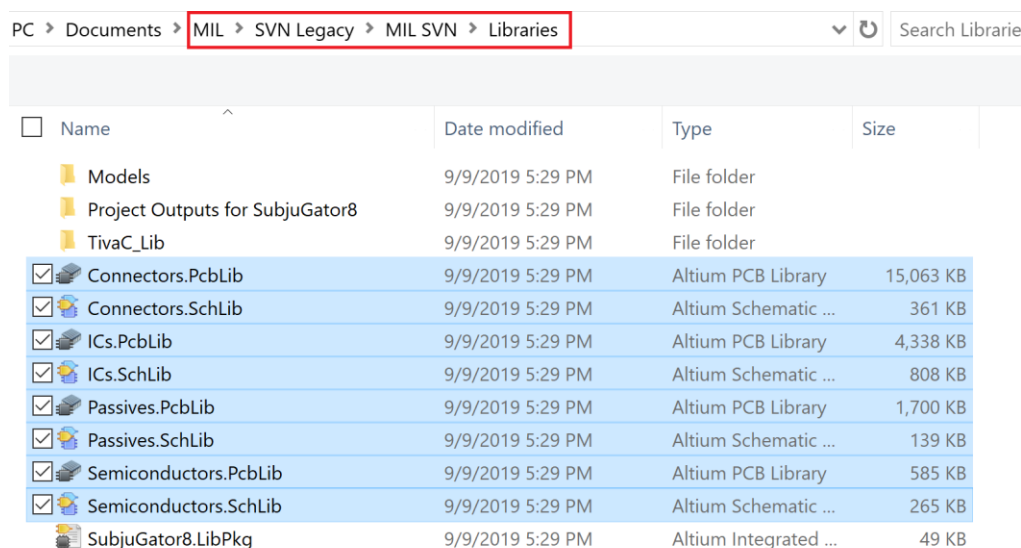

Figure 6: Main Libraries
11. Select all the files highlighted in Figure 6, then press okay.